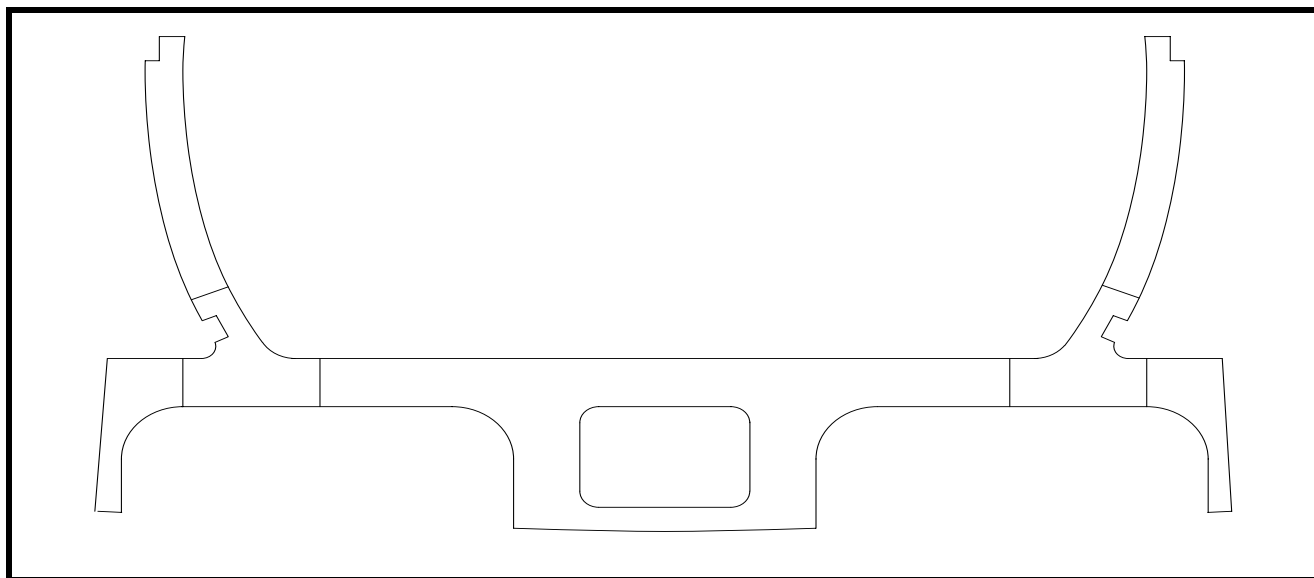

Figure 21
- ☐ Cut the five longeron cutouts in fuselage frame No. 5 as shown in Figure 21. As with all other fuselage frames, a master template should be used to locate the longeron cutouts. See Drawing No. 310.